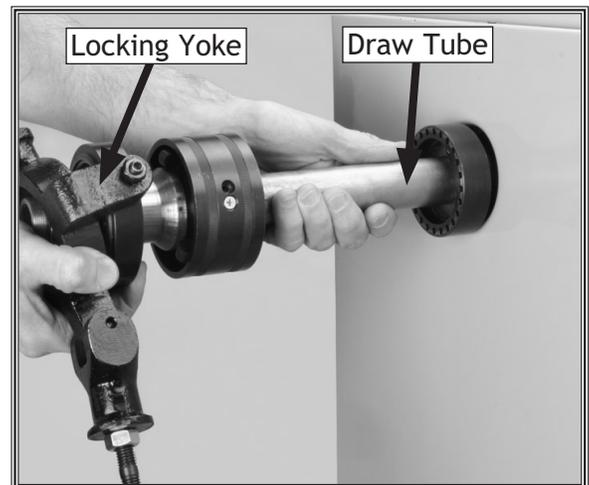

Figure 6. Inserting draw tube assembly.
1. Slide the draw tube assembly (**Figure 6**) all the way into the outboard spindle until it engages around the hub adapter.